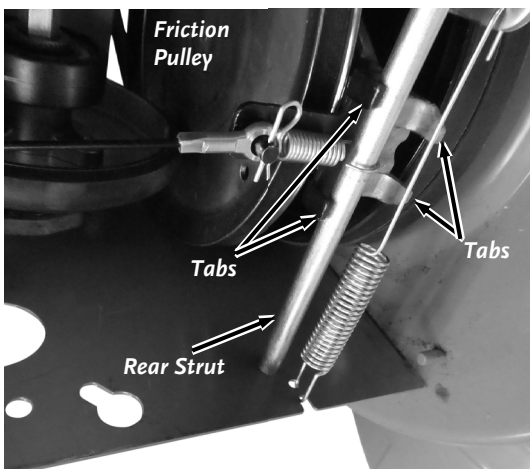
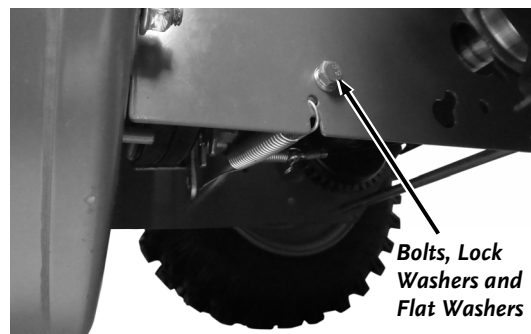

Figure 63
Figure 64
7. Observe how the end tabs of the Friction Disc Bracket are located on both sides of the front Strut (**Figure 63**). It is very important that it is installed this way when reassembled.
8. Remove the Bolts, Lock Washers and Flat Washers that secures the front Strut to the Frame (**Figure 64**). The Friction Disc Bracket will now move out of the way enough for Belt removal.
11. Secure the rear Strut to the Frame (**Figure 64**). Ensure that the Tabs are on both sides of the Strut (**Figure 63**).